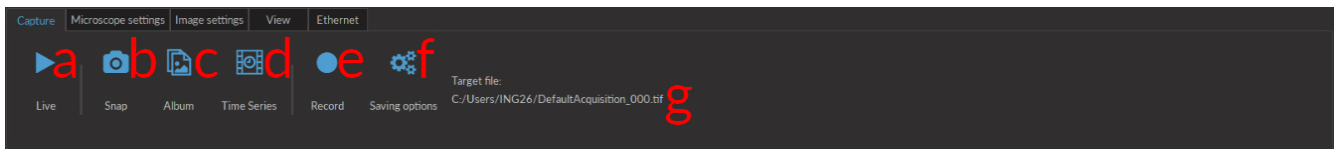
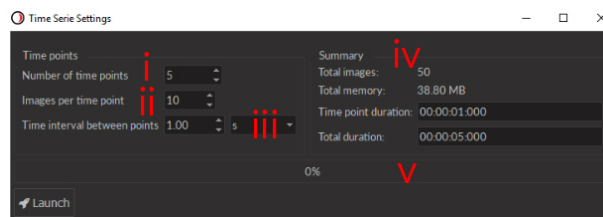

Figure 3.18: Capture Tab
Figure 3.19: Time Series Window
- a) The **Live** button (Fig. 3.18), when pressed, displays images from the microscope. These images are not saved.
- b) The **Snap** button (Fig. 3.18), when pressed, takes a snapshot of the current image and saves it in the requested directory with the desired name (**Saving Options**) as a single image.
- c) The **Album** button (Fig. 3.18), when pressed, acquires a snapshot and adds it to an album stack. The whole stack can be saved as one image stack.
- d) The **Record** button (Fig. 3.18), when pressed, acquires a continuous image stream, until **Stop** is pressed, and saves it in the requested directory with the desired name (**Saving Options**) as one image stack.
- e) The **Time Series** button (Fig. 3.18), when pressed, opens the time series interface (Fig. 3.19).
- i. The **Number of time points** (Fig. 3.19) defines the number of moments when a set of images will be recorded.
- ii. The **Images per time point** (Fig. 3.19) defines the number of images taken in each set.
- iii. The **Time interval between points** (Fig. 3.19), defined in ms, s and min, defines the duration between each image set. This duration always has a minimum value of **Exposure time x Images per time point**.
- iv. The **Summary** box (Fig. 3.19) shows many values related to the time series, including the **Total images** recorded, the **Total memory** occupied by the full series, the **Time point duration** and the **Total duration** of the full series.
- v. The **Progression bar** (Fig. 3.19) displays the progress (in %) of the time series.